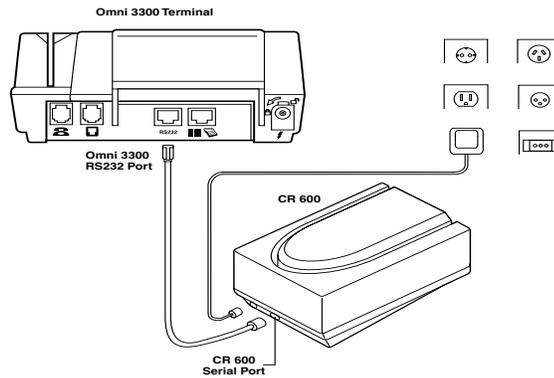

Figure 11 CR 600 Check Reader Connection
1. If the cable is not already connected to the check reader, insert the small modular plug on one end of the cable into the check reader's modular jack (Figure 11, page 20).